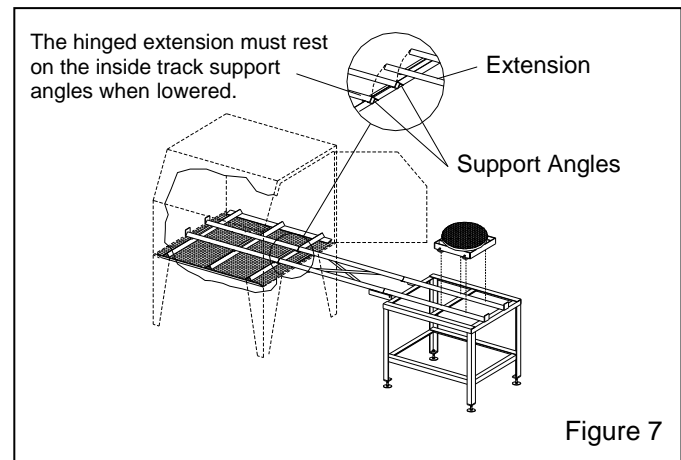

Figure 7
3.3.3 Position the track support table and extension as shown in Figure 7. When the hinged extension is lowered, the extension tracks must rest on the angled locating supports welded to the bottom of the inside tracks, and butt against the inside tracks.